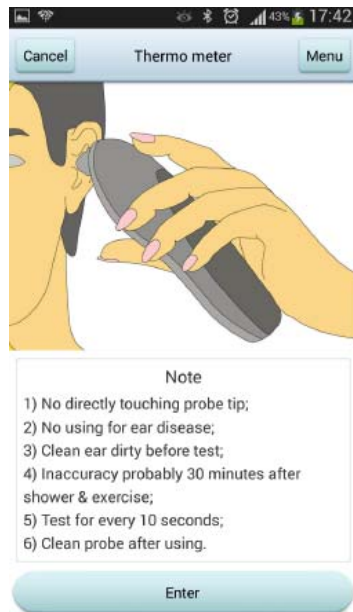
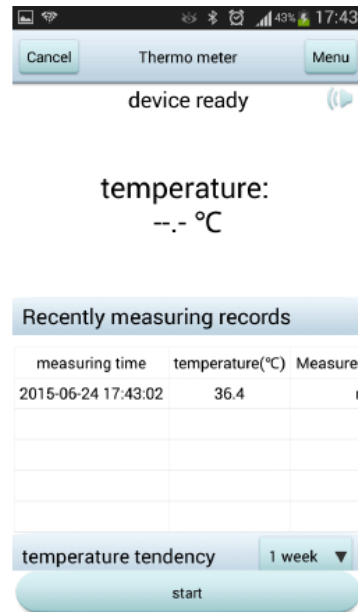

Figure 16
Figure 17
- 3) After searched the digital infrared thermometer successfully you can connect the thermometer with mobile by clicking the icon of “Thermo meter” and then the interface (Figure 16) will appeared. After click “Enter” it will enter into measurement interface (Figure 17).